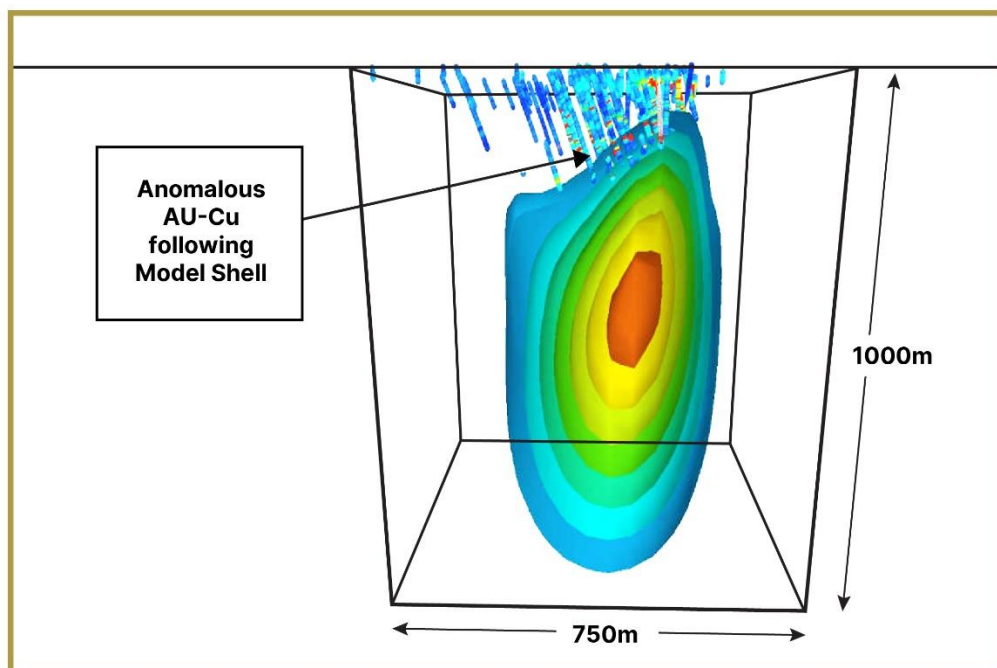

Figure 3: Coogee North CG-01 Target 3D magnetic inversion sliced through 6555580N looking north.
- The newly identified targets include a large untested magnetic anomaly 300m NNE from the Coogee Pit (Fig 3); Javelin believes this may host gold-copper mineralisation